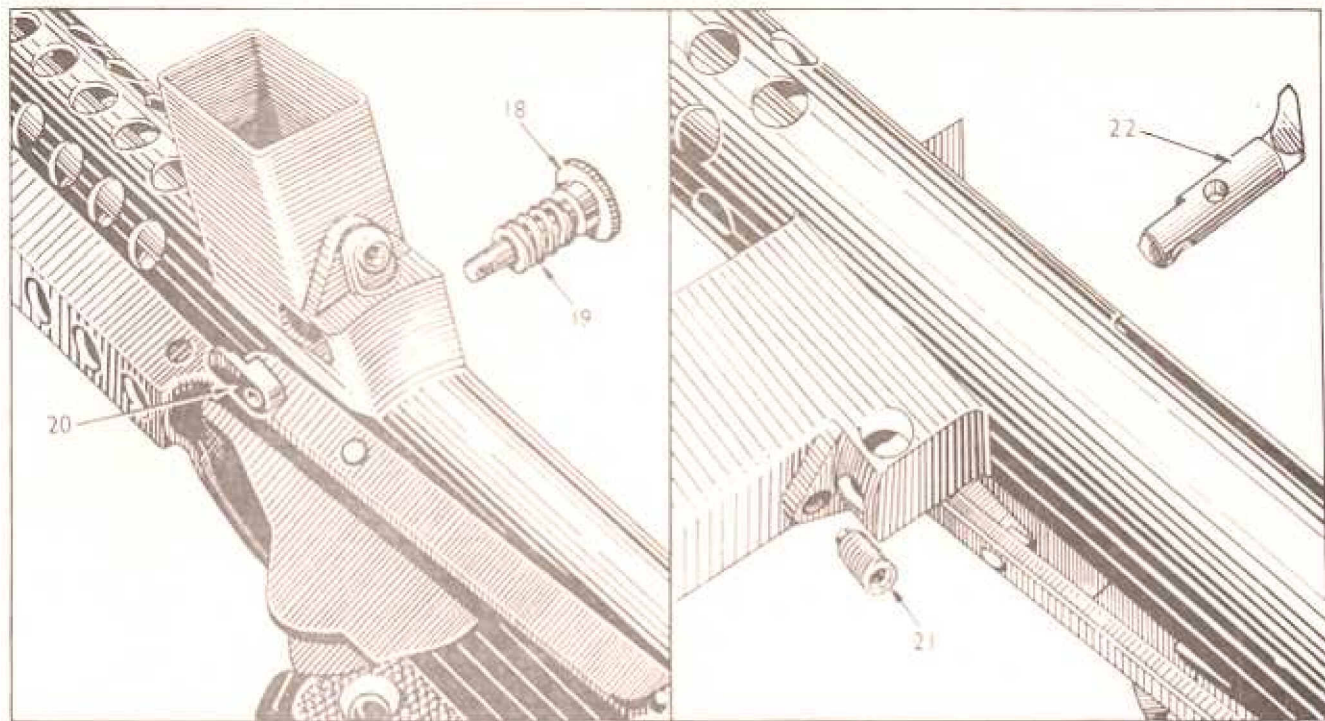

Fig. 12. To remove ejector
9.0 ADVANCED STRIPPING AND ASSEMBLY (Figs. 12, 13, 14, 15 and 16). **STRIPPING.**
- 9.1 TO REMOVE EJECTOR** (Fig. 12). Using large screwdriver unscrew magazine catch screw (18), remove spring (19) and magazine catch (20). Using $\frac{1}{4}$ " Allen key remove ejector retaining screw (21). Tap out ejector (22) and remove through ejection opening in the body